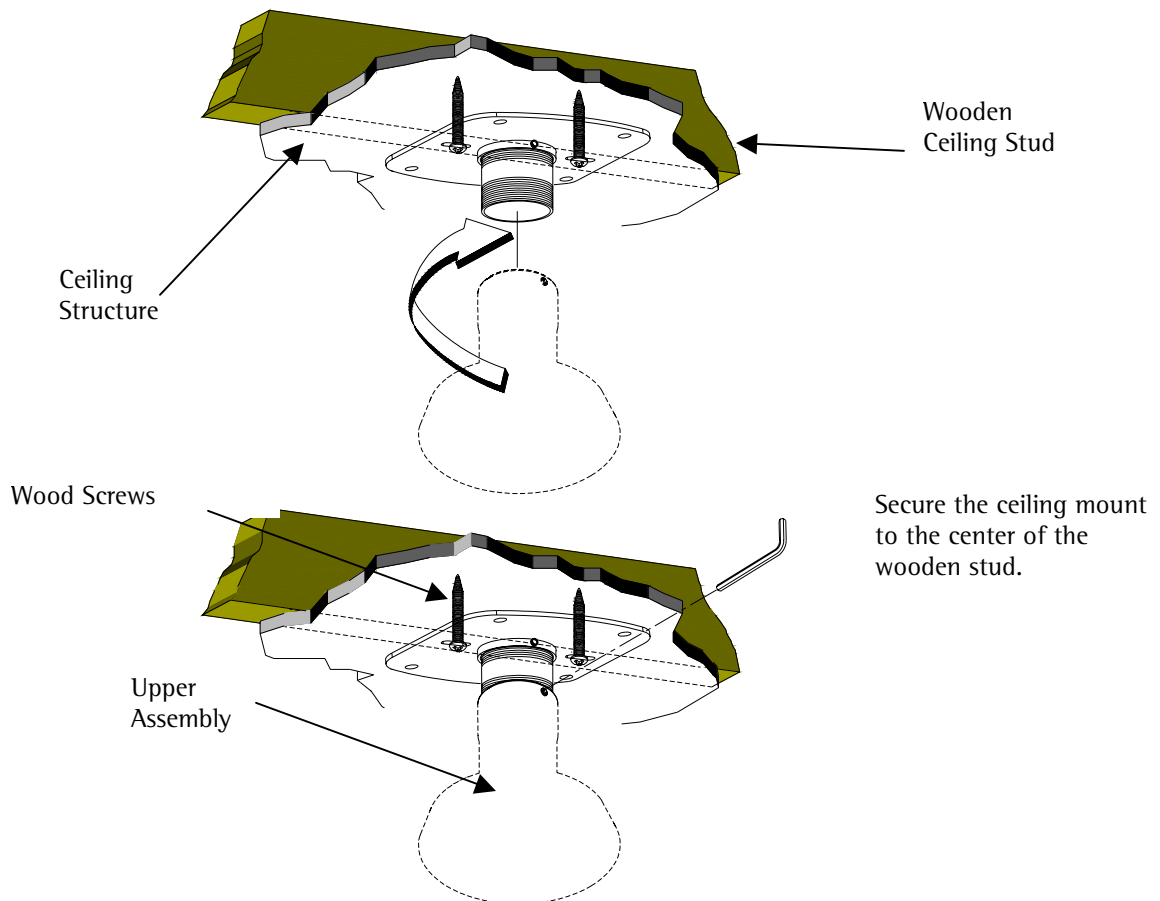

Figure 5. Securing the Upper Assembly Ceiling Plate
1. Secure the ceiling assembly into a solid wood ceiling stud with the two (2) #14 x 2" wood screws (supplied) or with other (commercially available) hardware depending on your installation environment (Figure 5).